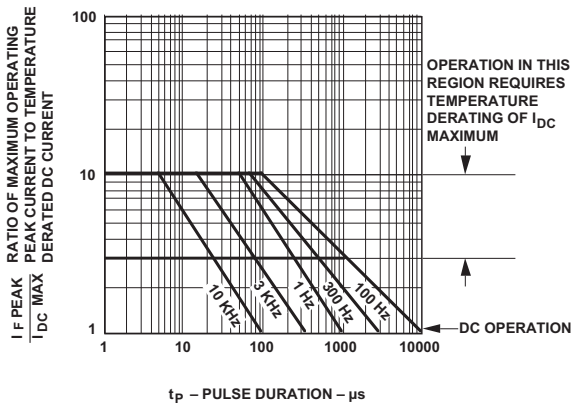

Figure 5. Maximum tolerable peak current vs. pulse duration – HER, Orange.
1. See Figure 5 to establish pulsed conditions.